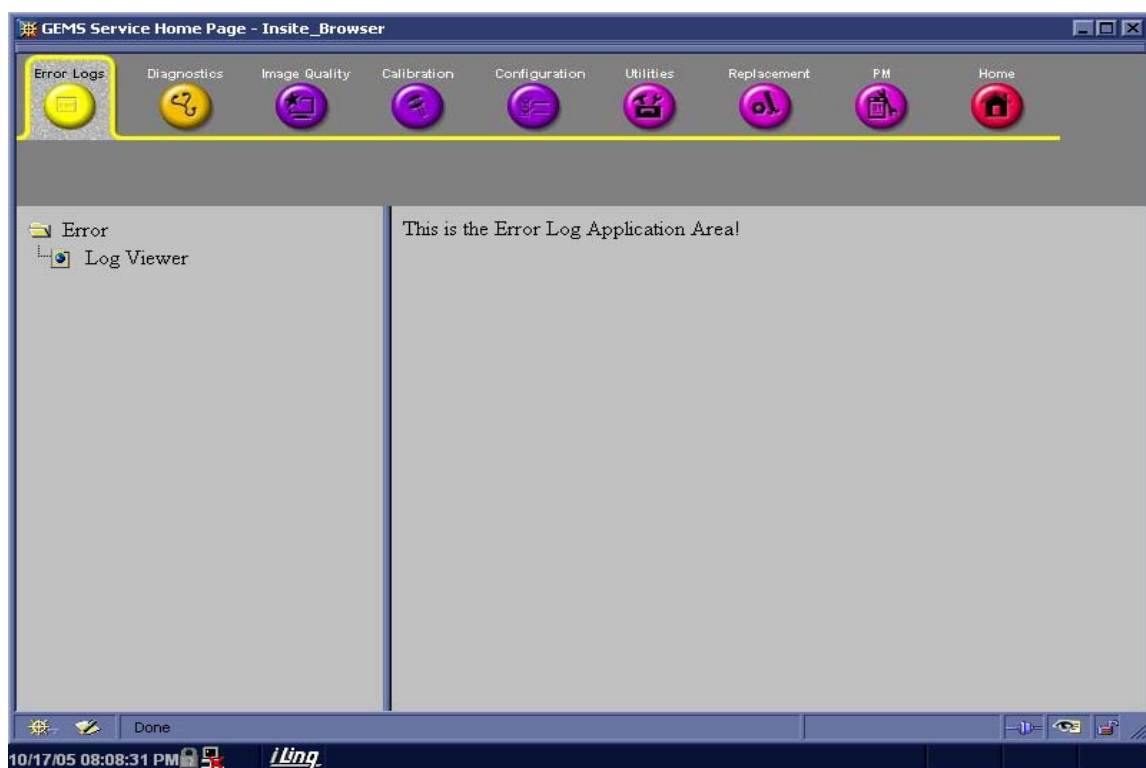

Figure 5-23 Log Viewer/Logs/Log Entries
*NOTE: Figure 5-23 on page 31 Provides a graphical example of the log entries for the **System Logs**.*